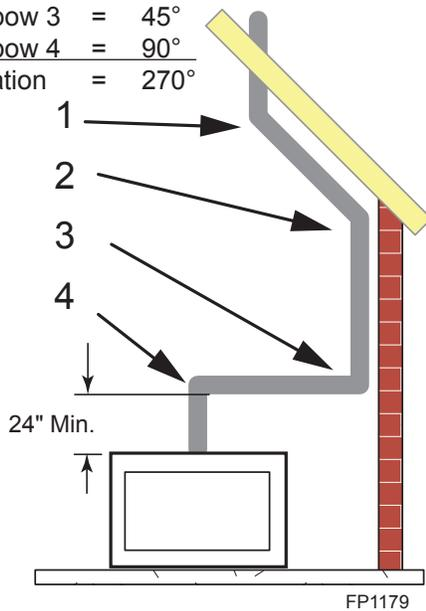

Figure 22 - Maximum Elbow Usage
- Two sets of 45° elbows offsets may be used within the vertical sections. From 0 to a maximum of 8' (2.5 m) of vent pipe can be used between elbows. *Figure 22*
- The maximum angular variation allowed in the system is 270°. *Figure 22*
NOTE: Pay special attention to these installation instructions for required clearances (air space) to combustibles when passing through ceilings, walls, roofs, enclosures, attic rafters, etc. Do not pack air spaces with insulation. Also note maximum vertical rise of the venting system and any maximum horizontal offset limitations. Offsets must fall within the parameters shown in Figures 22 and 23.